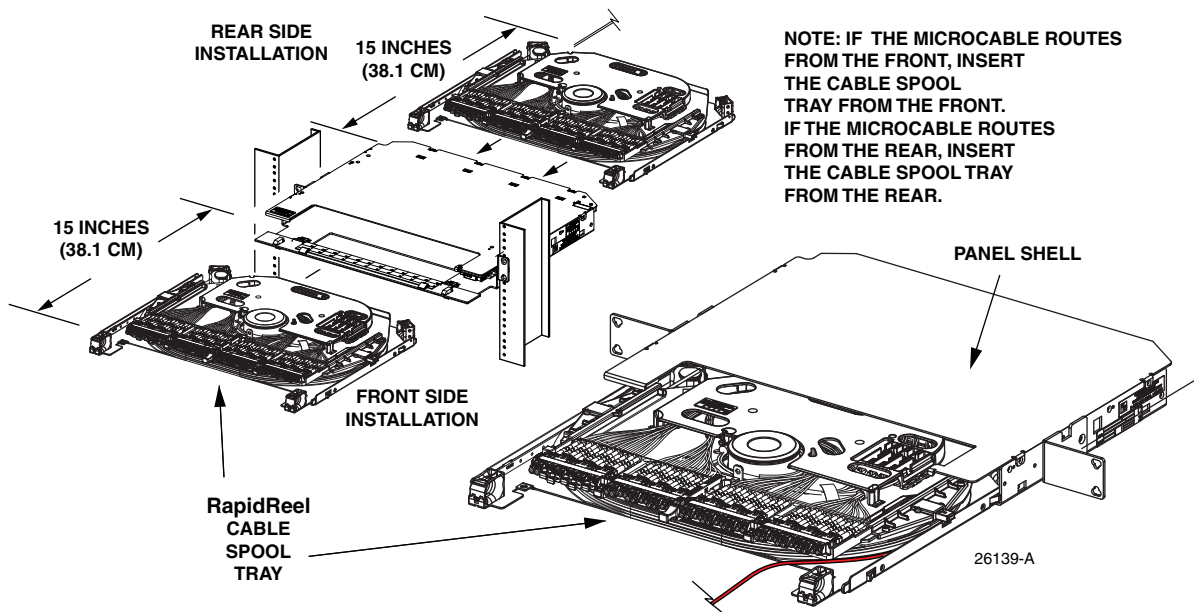

Figure 32. Aligning Cable Spool Tray With Mounting Slot
2. If the RapidReel cable spool tray will be inserted into the panel from the rear, align the RapidReel cable spool tray with the mounting slot, as shown in Figure 32, and carefully slide the spool tray into the mounting slot until the stop is reached.